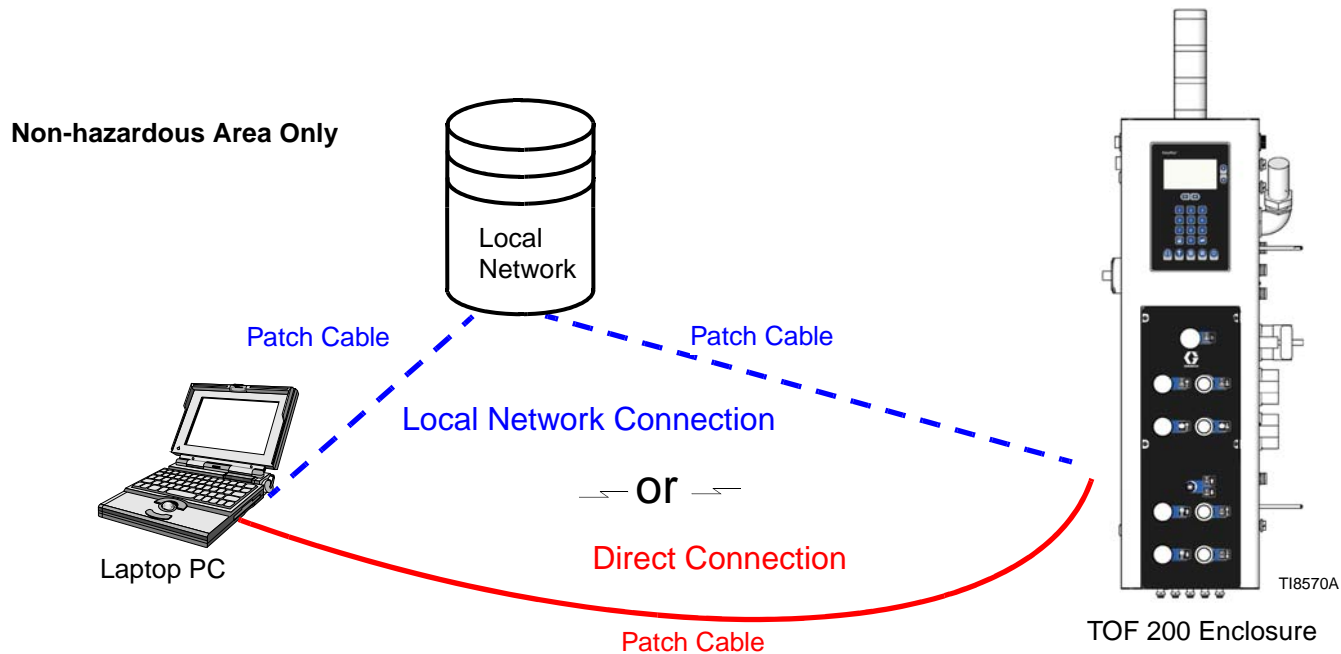

FIG. 30 Network Selection
- **Local Network Connection** (most common). Patch cable from the local network plugs into the TOF 200 Web Interface connection. See FIG. 30 and page 85.
- **Direct Connection** to the TOF 200 crossover cable from the PC plugs into the TOF 200 Web Interface connection. See FIG. 30 and page 88.